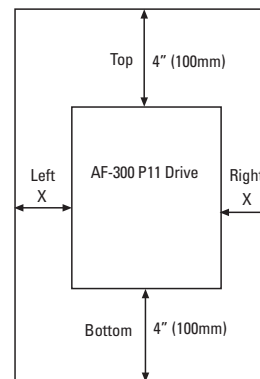

Fig. 2-2-1 30 HP or less: Gap X can be 0. (side-by-side installation) 40HP or more: Gap X >= 2.0" (50mm)
1. Securely fasten the product in an upright position on a solid structure with the tag AF-300 P11 facing the front. Do not turn the product upside down or install in a horizontal position. Fig. 2-2-1
2. Since heat is generated during drive operation, the spaces shown in Fig. 2-2-1 are required to ensure sufficient cooling. Do not install the product beneath a device sensitive to heat as heat radiates upward.